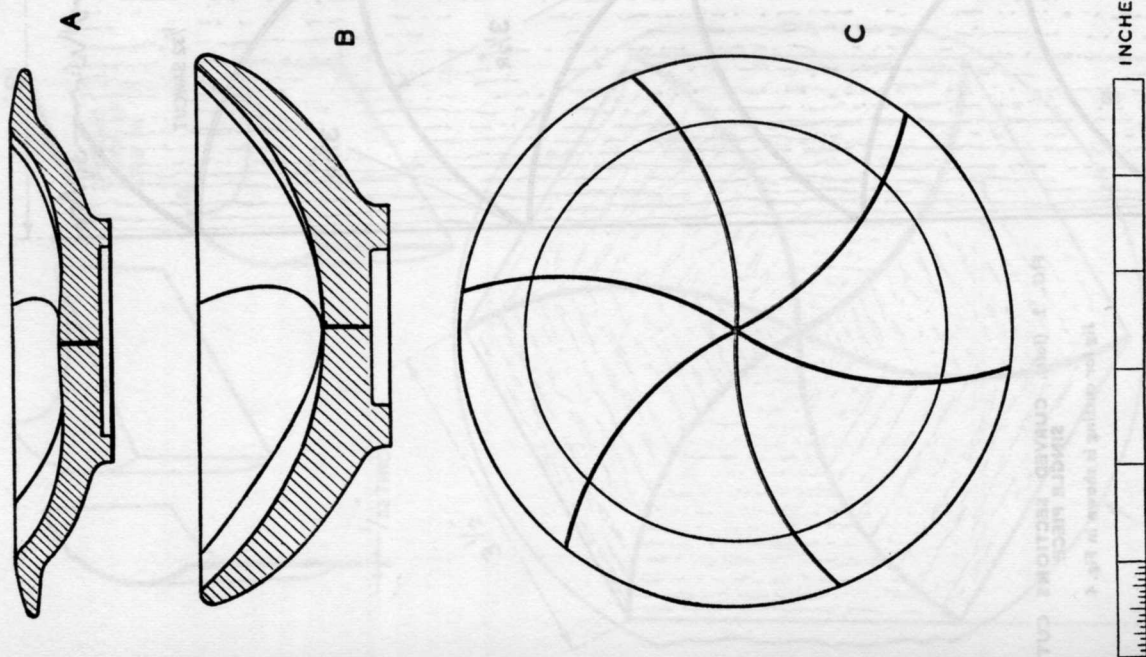

FIG. 1. BUILT-UP BOWLS MADE WITH CURVED SECTIONS
FIG. 1 SHOWS TWO DESIGNS (A AND B) FOR A SMALL BOWL MADE UP OF SIX curved sections cut from a light-coloured hardwood. Between the sections is a thin strip of dark wood veneer which produces the pattern shown in the centre plan view (C). The method of assembly is similar to that used for the built-up clock cases, Fig. 3, page 49; but the cutting of the curved sections so that they fit accurately together presents a peculiar problem.
Curved sections. As it would be difficult to make these by hand a suitable wooden jig for use with a small band saw will be described later. The sections are cut from a 3 in. wide block which has been carefully planed to size. The depth of the block should be not less than $1\frac{3}{8}$ in. for the upper bowl (A) and $2\frac{3}{8}$ in. for the lower one (B), Fig. 1. The length required is about 15 in. which includes the waste piece left when the last section is cut off. In Fig. 2 the block is shown divided into sections by a series of saw-cuts on a $3\frac{1}{2}$ in. radius. There is, however, no need to mark these out if the jig is used, as this is designed to locate the work as each cut is made.